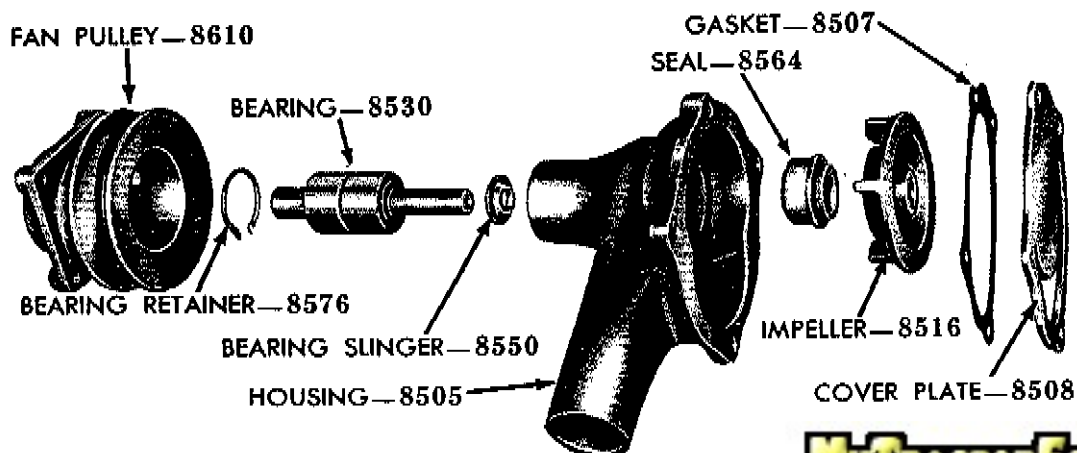

Fig. 34—Water Pump, Disassemble
The disassembled water pump is shown in fig. 34.
a. **Disassembly.** Place the water pump in a vise. Drive the shaft out of the pulley with a driver as shown in fig. 33. Remove the snap ring (fig. 34) from the water pump body. Press the shaft and bearing assembly out of the water pump body (fig. 34).
Remove the water pump seal snap ring, wa from the impeller (fig. 34).
c. **Inspection.** Replace a cracked or damaged water pump body (fig. 34). Replace the water pump seal if it is worn. Replace an impeller if it is cracked, excessively pitted, or if it has broken or damaged fins. Replace a pulley hub that is cracked or has stripped threads. Rotate the water pump bearing. If the bearing binds or has a tendency to stick, replace the bearing assembly. Replace the bearing assembly if there is end play or side play in the shaft.